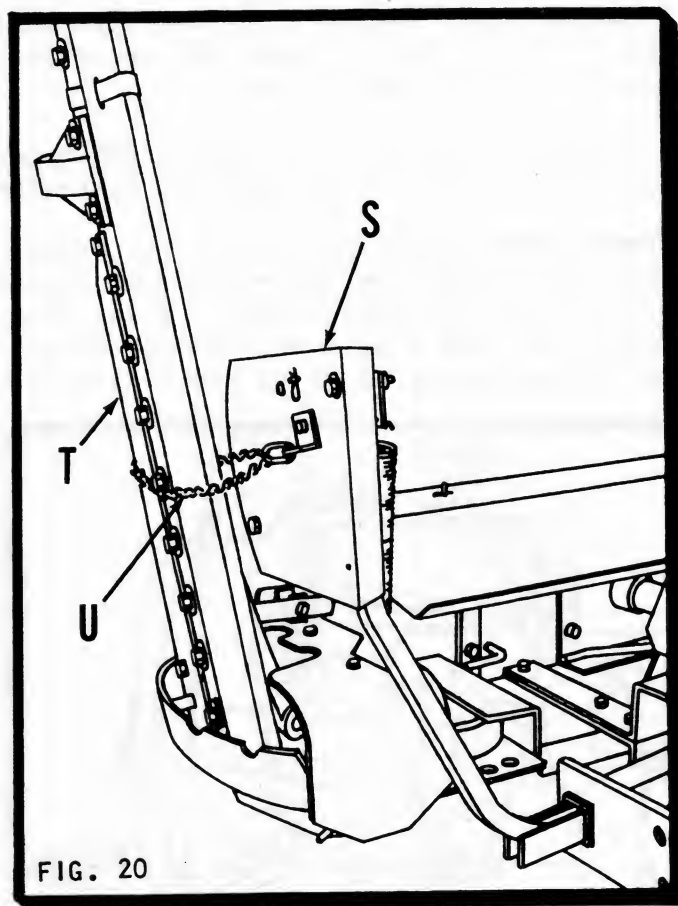

FIG. 20
3. Shut off tractor engine. Push cutter bar (T) toward carrier arm (S) until safety chain (U) can be hooked around cutter bar (S). (Fig. 20)